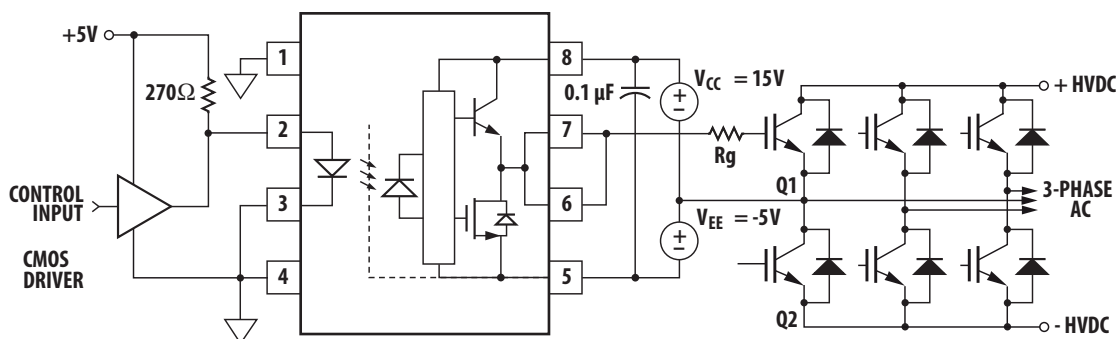

Figure 26. ACPL-312T typical application circuit with negative IGBT gate drive.
Step 1: Calculate R_g Minimum from the I_{OL} Peak Specification. The IGBT and R_g in Figure 26 can be analyzed as a simple RC circuit with a voltage supplied by the HCPL-3120.
For the circuit in Figure 26 with I_F (worst case) = 16 mA, R_g = 8 Ω, Max Duty Cycle = 80%, Q_g = 500 nC, f = 20 kHz and T_A max = 85°C: